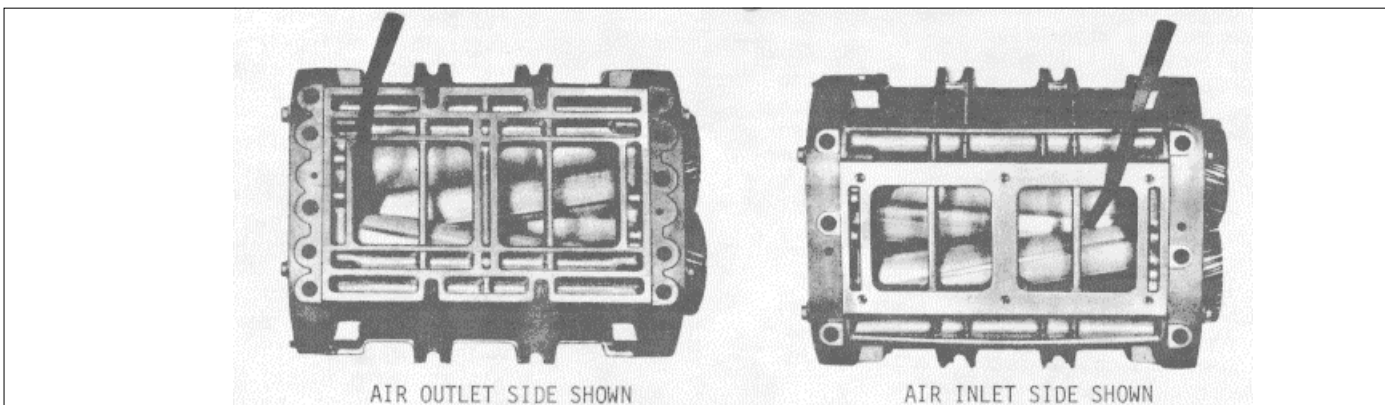
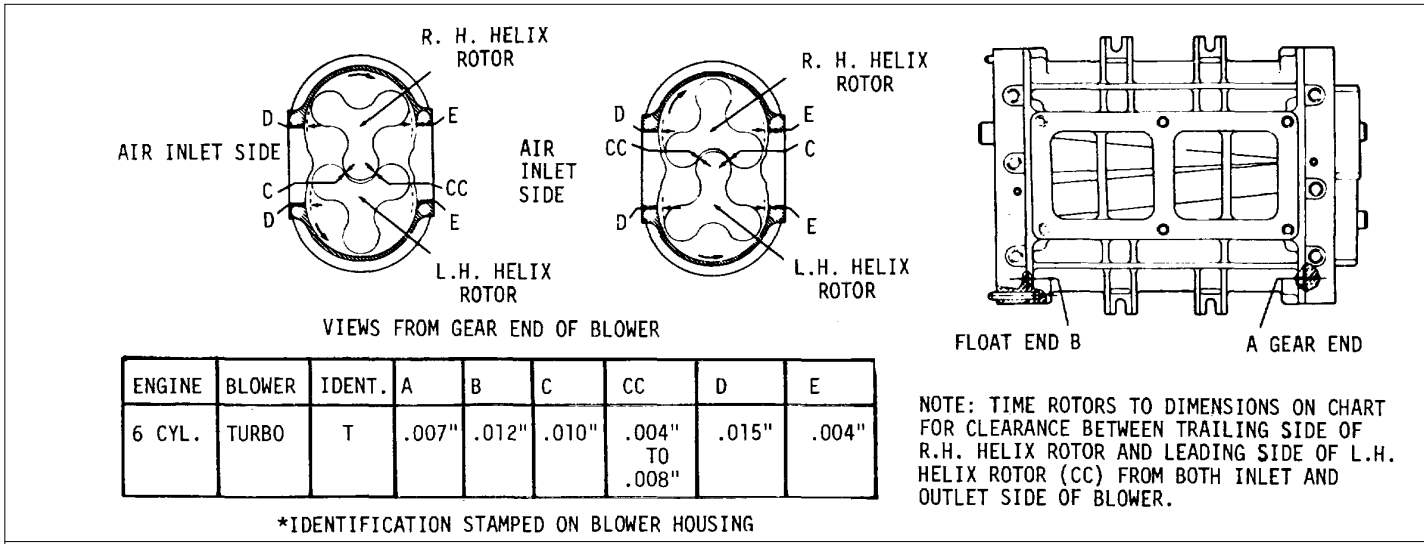
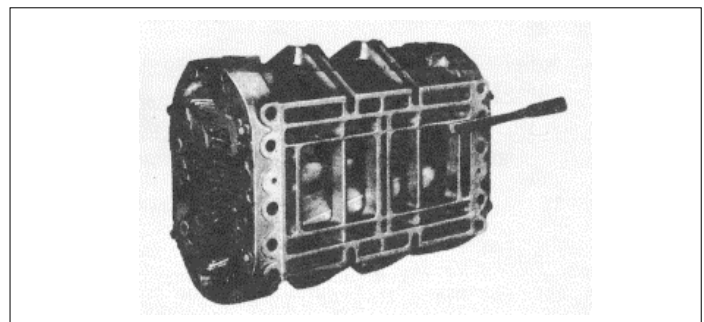

Fig. 17
Fig. 18
Fig. 20
- (4) Make a preliminary check of the rotor-to-end plate and rotor-to-housing clearances at this time with a feeler gage as shown in Fig.20.Refer to Fig.18 for minimum blower clearances.
- (5) Before installing the blower rotor timing gears on the rotor shafts, observe precautions '2' and '3' relative to the rotor shaft and timing gear alignment under 47. 2 "Assemble Blower".
- (1) The blower rotors, when properly positioned in the housing, run with a slight clearance between the lobes. This clearance may be varied by moving one of the helical gears in or out on the shaft relative to the other gear.
- (2) If the right-hand helix gear is moved out, the right-hand helix rotor will turn counterclockwise when viewed from the gear end. If the left-hand helix gear is moved out, the left-hand helix rotor will turn clockwise when viewed from the gear end. This positioning of the gears, to obtain the proper clearance between the rotor lobes, is known as blower timing.
- (3) Moving the gears OUT or IN on the rotor shafts is accomplished by adding or removing shims between the gears and the bearings.
- (4) The clearance between the rotor lobes may be checked with 1/2" wide feeler gages in the manner shown in Fig.17. When measuring clearances of more than .005", laminated
- (5) Refer to Fig.17 and Fig.18 and time the rotors to the specified clearance between the trailing edge of the right-hand helix rotor and the leading edge of the left-hand helix rotor ('CC' clearance) measured from both the inlet and outlet sides. Then check the clearance between the leading edge of the right-hand helix rotor and the trailing edge of the left-hand helix rotor ('C' clearance) for the minimum clearance. Rotor-to-rotor measurements should be taken 1" from each end and at the center of the blower.
- (6) After determining the amount one rotor must be revolved to obtain the proper clearance, add shims back of the proper gear as shown
- (7) Install the required thickness of shims back of the proper gear and next to the .140" thick gear spacer which is against the bearing inner race and reinstall both gears. Recheck the clearances between the rotor lobes.
- (8) Determine the minimum clearances at points 'A' and 'B' shown in Fig.18. Insert the feeler gages, as shown in Fig.20, between the end plates and the ends of the rotors. This operation must be performed at the ends of each lobe, making 12 measurements in all. Refer to Fig.18 for minimum clearances.
- (9) Check the clearance between each rotor lobe and the blower housing at both the inlet and outlet side -- 12 measurements in all. Refer to Fig.18 for the minimum clearances.